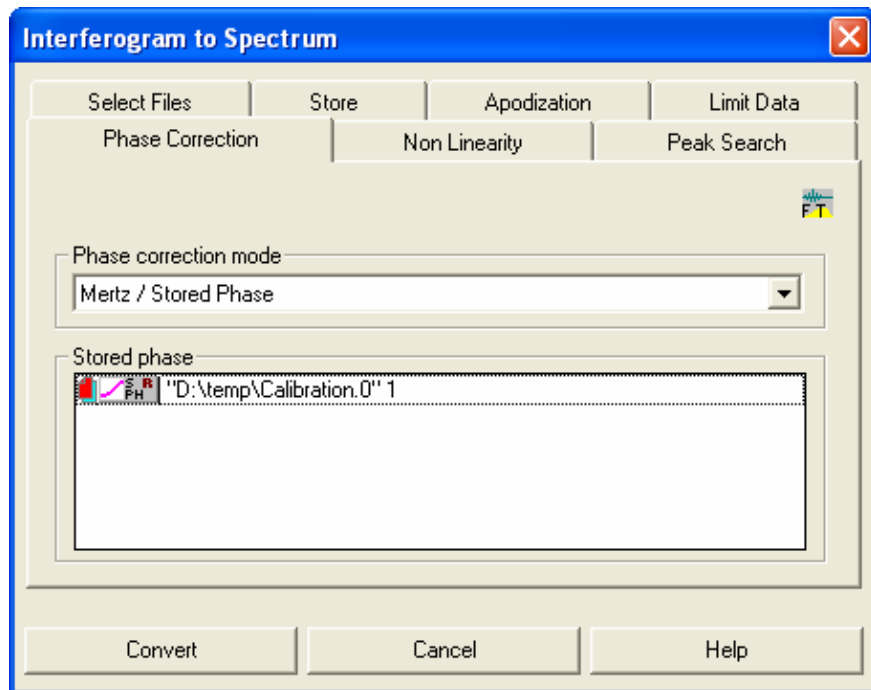

Fig. 28: Calibration phase spectrum in the "Stored phase" field.
- Also for this conversion, do NOT store the phase (i.e. deactivate the “Save Phase” check box on the “Store” page). Click on the “Phase correction” tab. This time, select in the “Phase correction mode” drop-down list the option “Mertz/Stored Phase”. Drag & drop the data block “SPHR” (calibration phase spectrum) in the “Stored phase” field. (See figure 28.) All the other parameter settings have to be identical to the previous “Interferogram to Spectrum” conversions. Click on the “Convert” button. As a result, two additional data blocks are added to the file resulting from the sample measurement. The spectra of these data blocks are usually much smaller in intensity than the constant single channel sample spectrum. The data block “SSCR” contains the in-phase single channel sample spectrum and the data block “SSCI” contains the out-of-phase single channel sample spectrum.